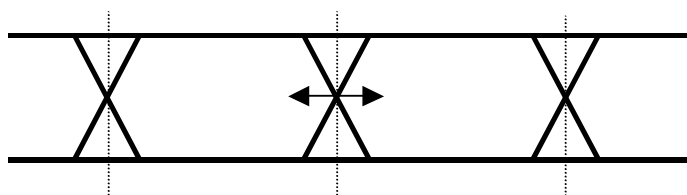

Figure 5.1.1-2 Setting Half Period Jitter
- [10] Set the Half Period Jitter for the data output signal. The Cross Point time axis can be adjusted as shown in Figure 5.1.1-2 using this setting while observing the Eye pattern. Adjacent Eye patterns become equal at default 0.